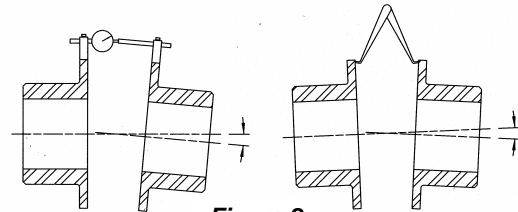

Figure 2
D. Angular Alignment. Rigidly mount a dial indicator on one hub or shaft, reading the face of the other hub flange, as shown in Figure 2. Rotate both shafts together making sure the shaft axial spacing remains constant. Adjust the equipment by shimming and/or moving so that the indicator reading is within .002 inch per inch of coupling flange diameter. See Table 1.